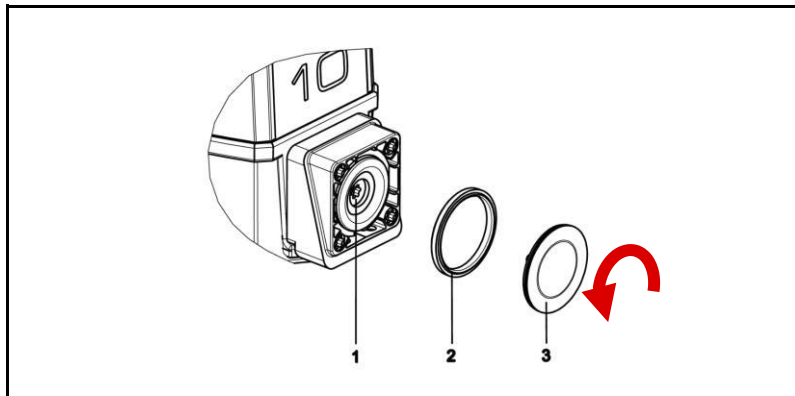

Fig. 69: Replacing the pump diaphragm
7. Lift pump membrane (3) at opposite side edges, grip and screw out by turning anticlockwise (see arrow in Fig. 69)